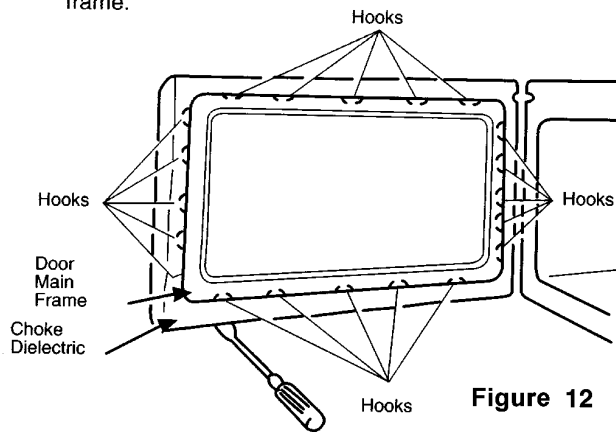

Figure 12
(Figure 12)
- (1) Insert a thin flat-blade screwdriver between the choke dielectric and the door main frame and lift up the choke dielectric to release hooks one by one. (Figure 12)
- (2) Remove the choke dielectric.
- (3) To detach the door cover, Insert a thin flat-blade screwdriver between door cover and the door panel and release the projections inside door cover.
- (4) To detach the door panel, Insert a thin flat-blade screwdriver between the door cover and door main frame.